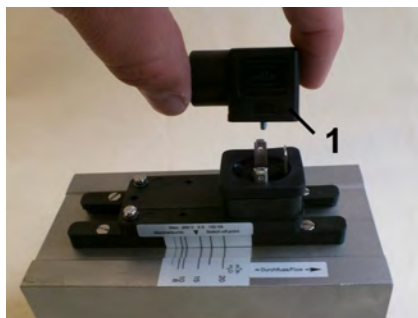

Fig. 46: Remove female socket
2.  Remove the female socket and gasket (Fig. 46/1) by pulling upwards